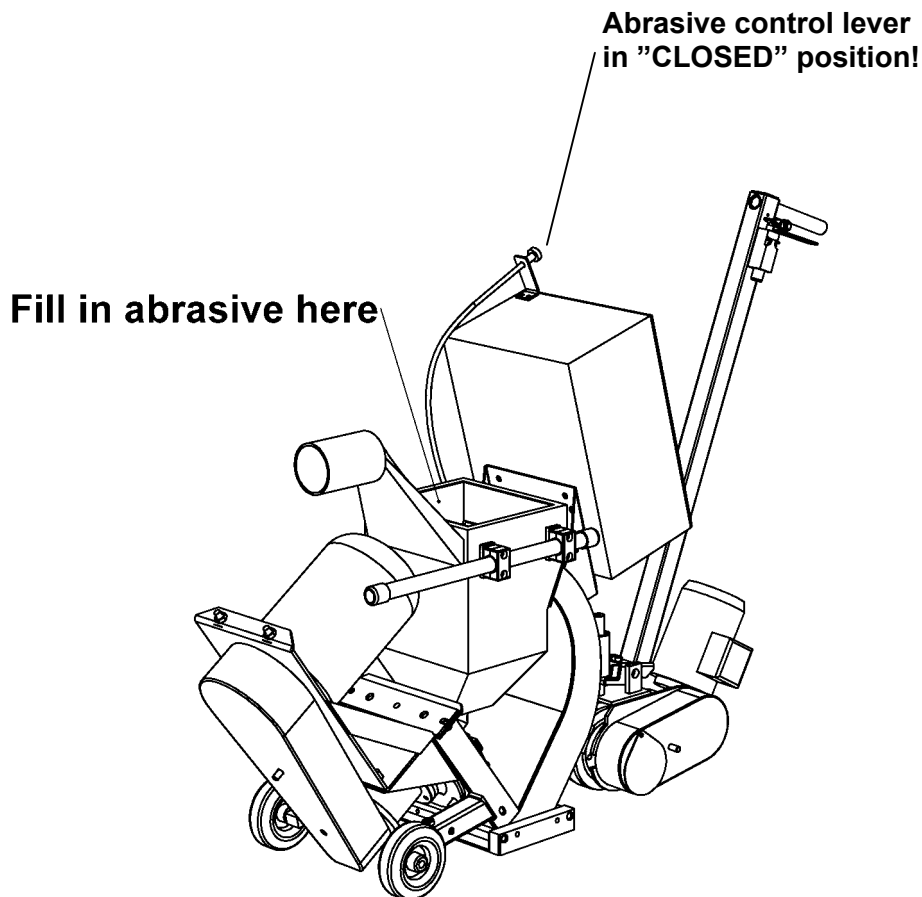

Fig. 5.2
- Check that the magnetic valve is closed (black lever in position "CLOSED" Fig. 5.2).